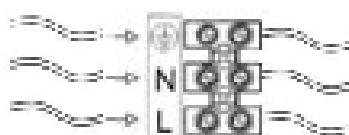

Fig.1.b
1. Slip the canopies on down rod from the bottom end as shown on fig.1.a.